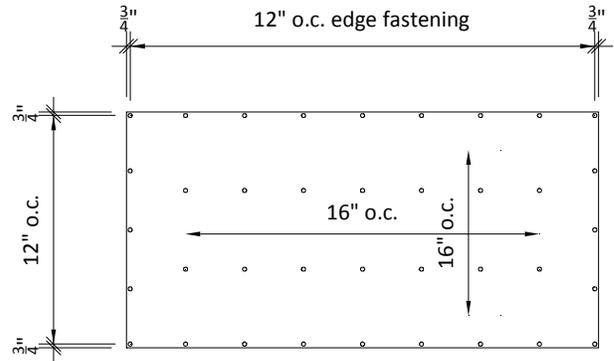

Fig. 7 - Fastener Spacing Diagram
3. Fastener spacing is typically 12" on center along all edges of the panel and 16" on center throughout the middle of the panel. To ensure that the edges do not become damaged fasteners should remain a minimum 3/4" from panel edges. See fig. 7